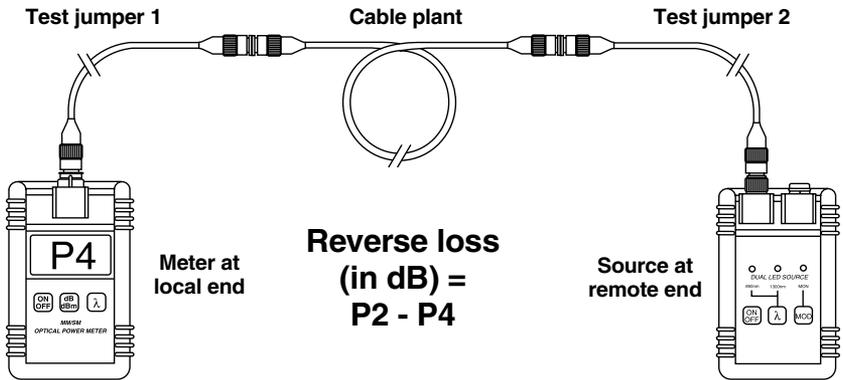

Figure 5-6. Reverse link connection.
4. We suggest that you measure the loss in both directions. To do this, connect the source at the remote end of the link and the meter at the local end to their respective patch-panel ports using the test jumpers, as shown in Figure 5-6.
5. Using the formula shown in Figure 5-6, subtract the dBm reading on the meter ("P4") from the nominal remote source-output value ("P2") you measured in step 1. For example, if the meter reads -21 dBm and you got -14 dBm in step 1, the forward link loss would be $-14 - (-21) = 7$ dB.